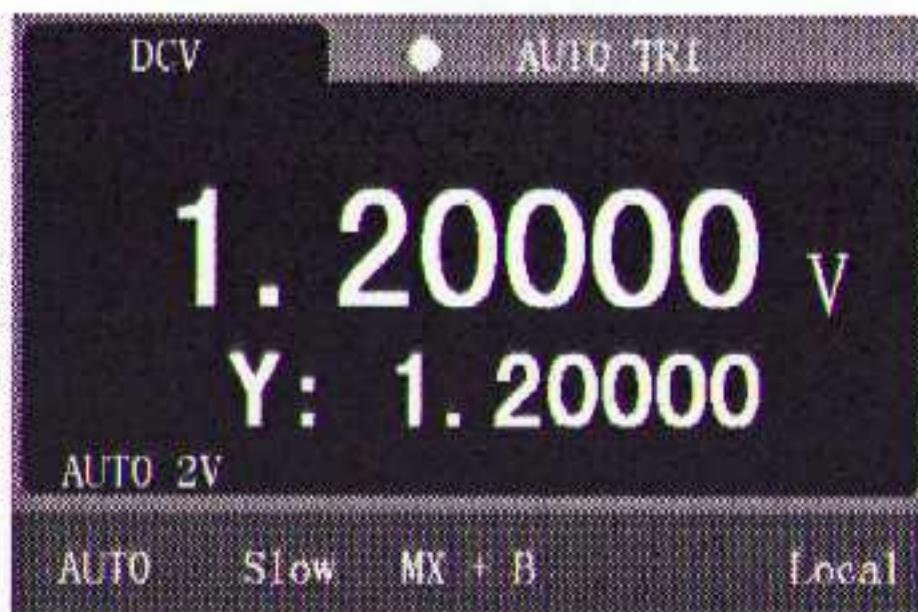
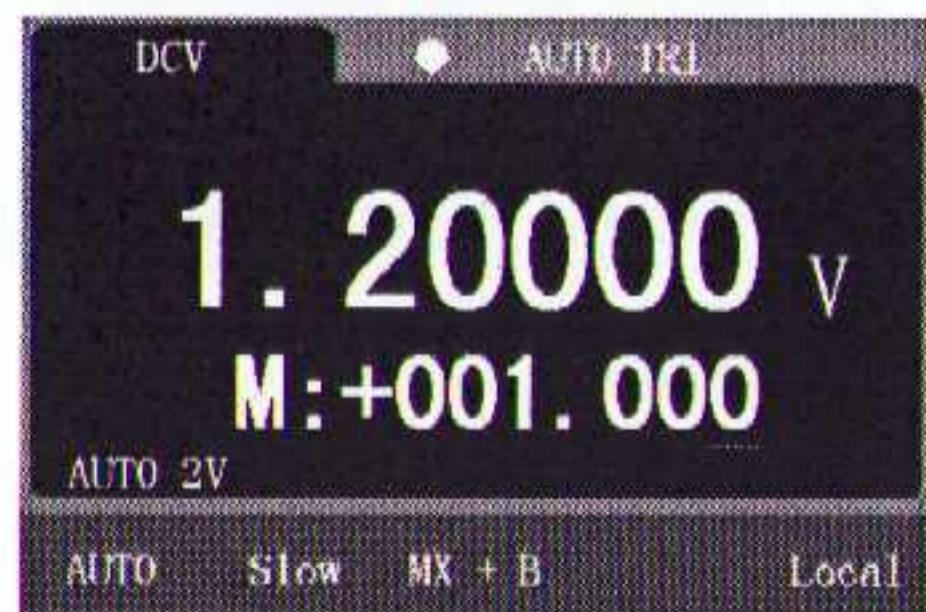

Figure 5-2 MX + B measurement interface
Figure 5-3 M value modified interface
Press key to select the MX + B function, as shown in Figure 5-2. Press the key again to exit the MX + B function.
- 2) In the interface shown in Figure 5-2, press the Enter key to call up the M value modification interface, as shown in Figure 5-3. The value of M can be modified by the use of up / down / left / right arrow key.
- 3) In the interface shown in Figure 5-3, press the Enter key to call up the B value modification interface. The value of B can be modified by the use of up / down / left / right arrow key.